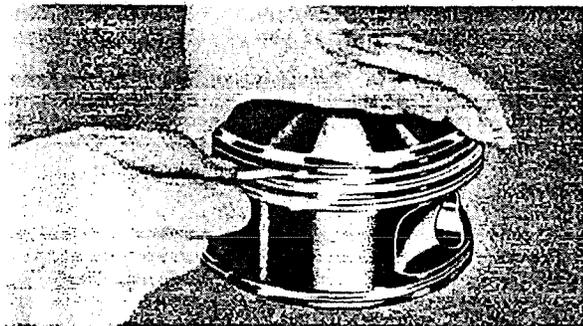

Figure 25 - Checking Side Clearance of Piston Ring
(3) Check side clearance. Refer to Figure 25.